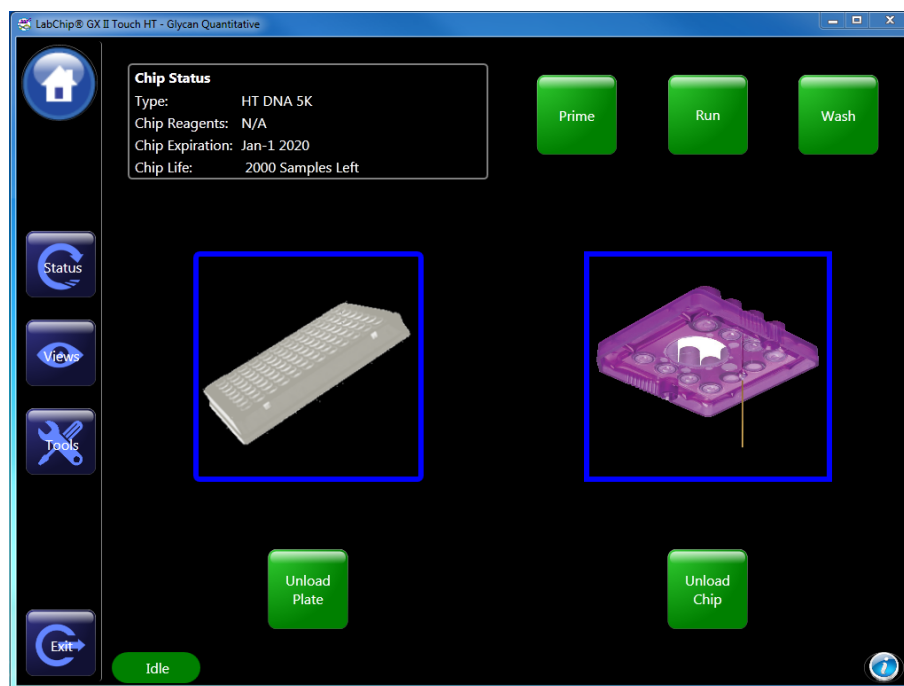

Figure 5. *Home* screen.
- 5 Touch the *Load Plate* button on the *Home* screen (Figure 5) to retract the sample plate and send the sipper to the Buffer Tube.